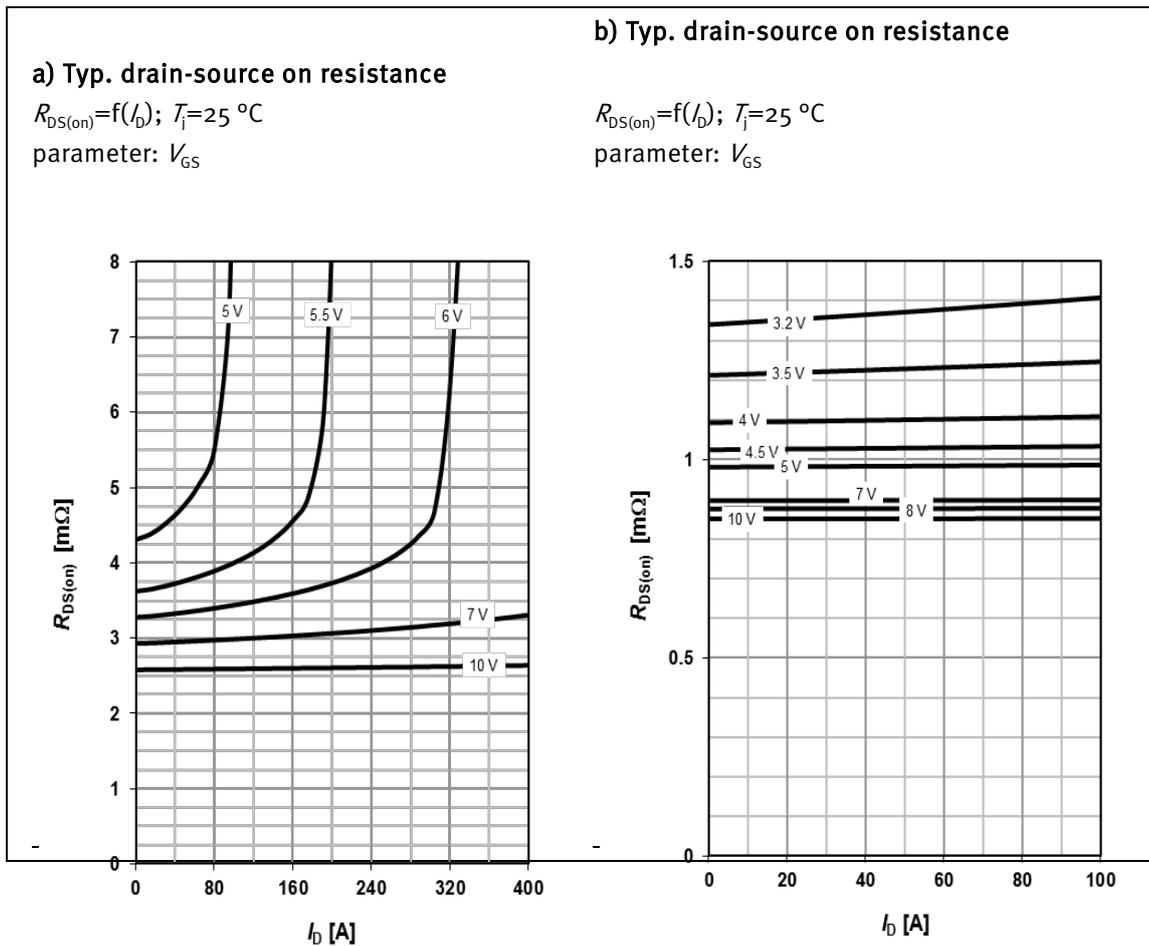

Figure 10 Typical drain-source on-state resistance $R_{DS(on)}=f(I_D)$ for a) normal level device and b) logic level device (BSC010N04LS)
In Figure 10, for each gate-source voltage, the drain source on-state resistances over drain current curve is directly calculated from the typical output characteristic diagram (Figure 8a) using Ohms Law, eq. (7).